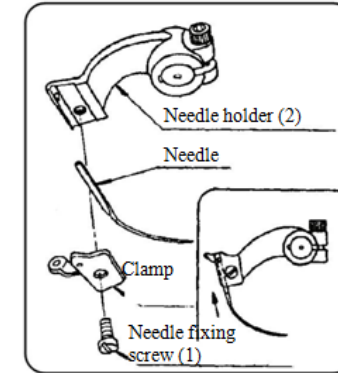

Fig. 8
Insert new needle into needle holder (2), pushing it as deep as possible. Then tighten the needle set screw (1). Note: Figure 8 presents elements of the needle holder.